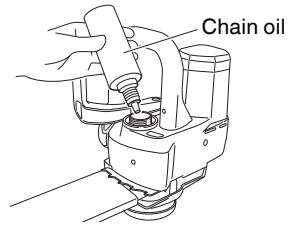

Fig. 14
- This unit is delivered without chain oil inside. Ensure the oil tank is filled with the chain oil provided before use. (Fig. 14)